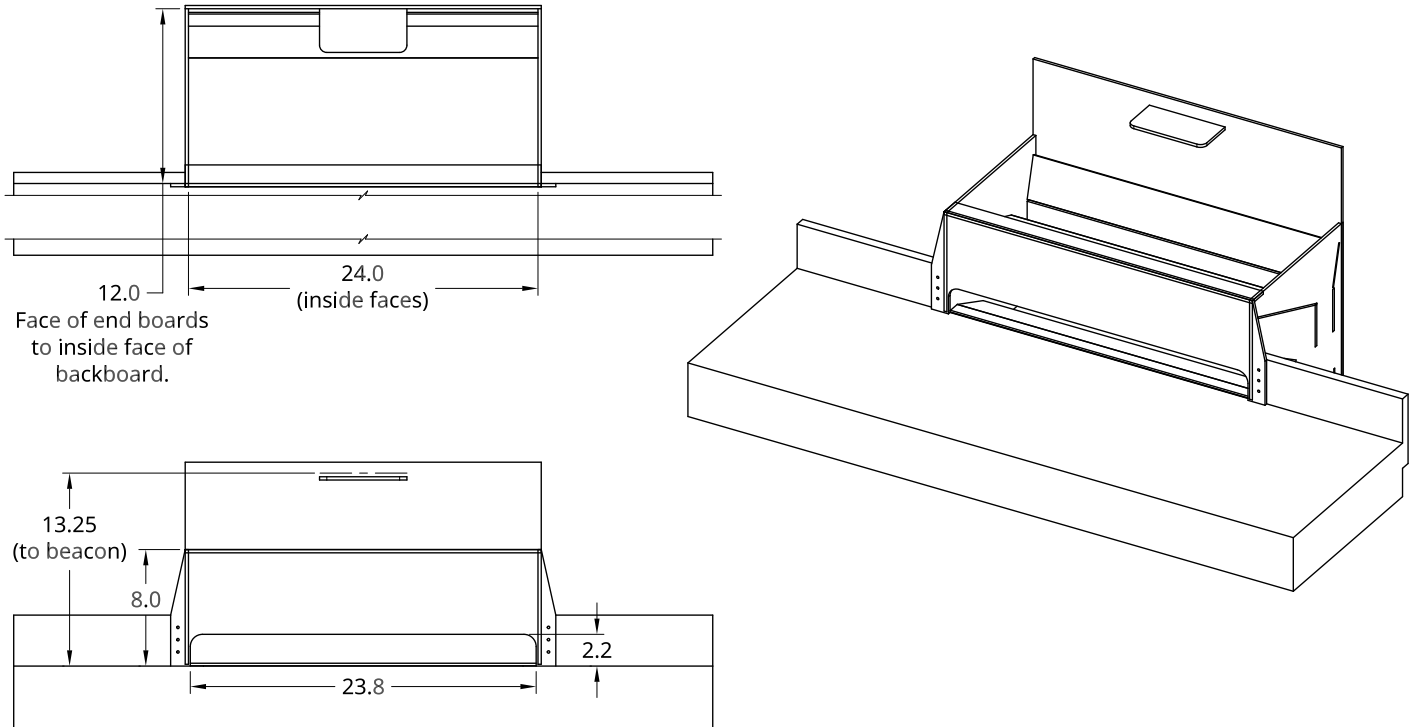

Figure 2: The goal.
- Each goal will have two openings for scoring BALLS. Dimensioned and isometric views of a goal are presented in Figure 2.